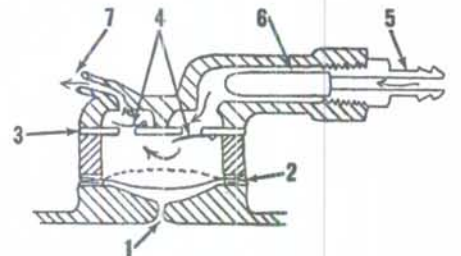

Fig. C2-5—Schematic view of the diaphragm type fuel pump used on all models. Check valves are of the reed type.
FUEL PUMP. A diaphragm type fuel pump is attached to the transfer port cover for the upper crankcase. Pressure and vacuum pulsations from the crankcase are directed through the port (1—Fig. C2-5) to the rear of diaphragm (2). When the powerhead piston moves upward in its cylinder, vacuum in the crankcase draws the diaphragm inward and fuel enters the fuel chamber through filter (6) and the inlet reed valve (4) in reed plate (3). As power head piston moves downward, pressure forces the diaphragm outward into fuel chamber and fuel passes through the outlet reed valve to carburetor line (7).